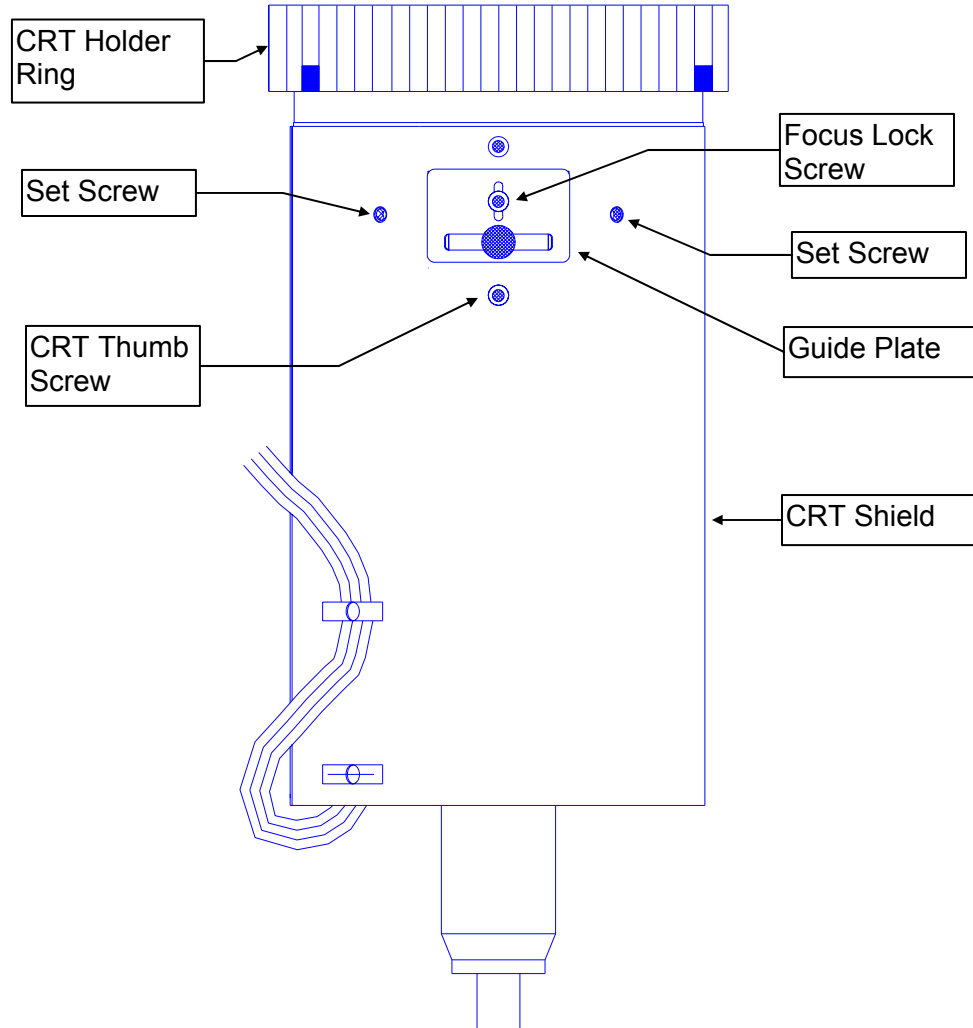

Figure 3-5. CRT Mechanical Focus adjustments.
9. Put on safety gloves (see *Safety section for gloves type*) then loosen the wing nut on the Green Relay Lens (or whichever lens is being focused). **NOTE:** If the **ILA**[®]/Relay Lens/CRT assembly cannot be moved close enough to get a good spacer ball focus, loosen the CRT Lens Stopper Ring in front of the CRT Holder Ring (Figure 3-5). Move the CRT snug against the collar to get additional range, and then, retighten the collar.
NOTE: The CRT Mechanical Focus procedure (*Section 3.5*) is often performed sequentially with the CRT Rotation procedure (*Section 3.6*). The same two set screws (*Figure 3-5*) are loosened when doing either of these procedures. When performing the procedures in sequence, ensure the two set screws are secure when either the focus lock screw *or* the CRT thumbscrew is tightened after finishing each adjustment. **Do not** leave the set screws loose when securing either the focus lock screw or the CRT thumbscrew. **Turning**
5. Loosen the two set screws (Figure 3-5) near the top of the CRT sleeve.
6. Loosen the CRT focus lock screw located on the Guide Plate at the top of the CRT shield (*Figure 3-5*). The CRT is now free to slide.
7. Grasp the CRT thumbscrew (*Figure 3-5*) and slide the CRT back and forth until the image is focused as sharply as possible (be careful not to loosen the CRT thumbscrew which could cause the CRT to rotate).
5. Loosen the 2 set screws (*Figure 3-5*) near the top of the CRT sleeve.
6. Loosen the CRT Thumbscrew (*Figure 3-5*) on the top of the CRT Assembly.